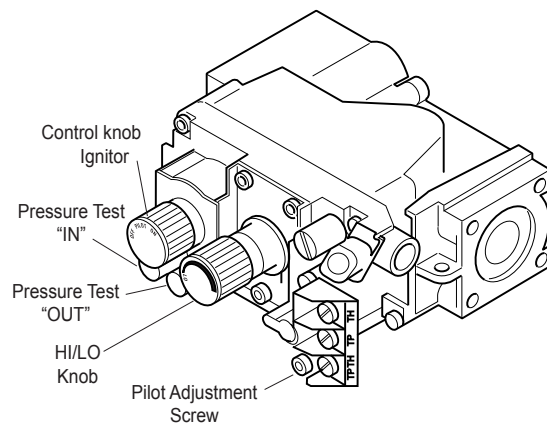

Figure 34 - Gas Pressure Check at Gas Valve
5. To check gas pressures at valve, turn captured screw counter clockwise 2 or 3 turns and then place tubing to pressure gauge over test point. Turn unit to high. See Figure 34. After taking pressure reading, be sure and turn captured screw clockwise firmly to reseal. Do not overtorque. Check test points for gas leaks.